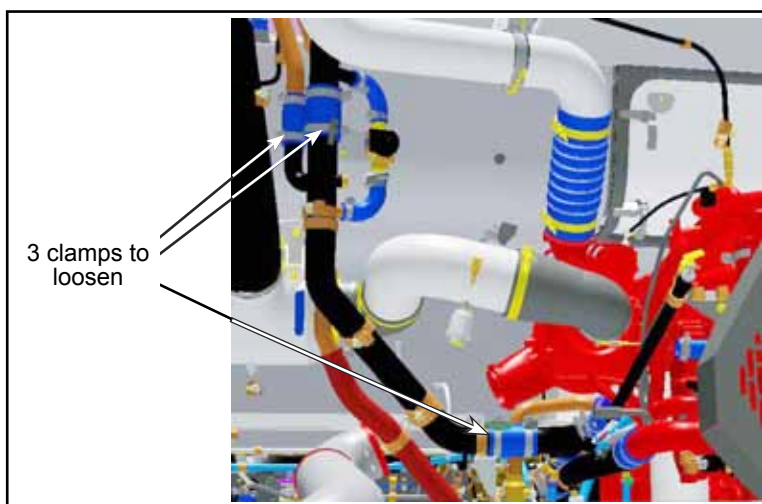

Figure 2 - Position of the Clamps to Loosen
- 1.4. Remove the hose by loosening the P-clamps (see Figure 2). Retain the hardware.